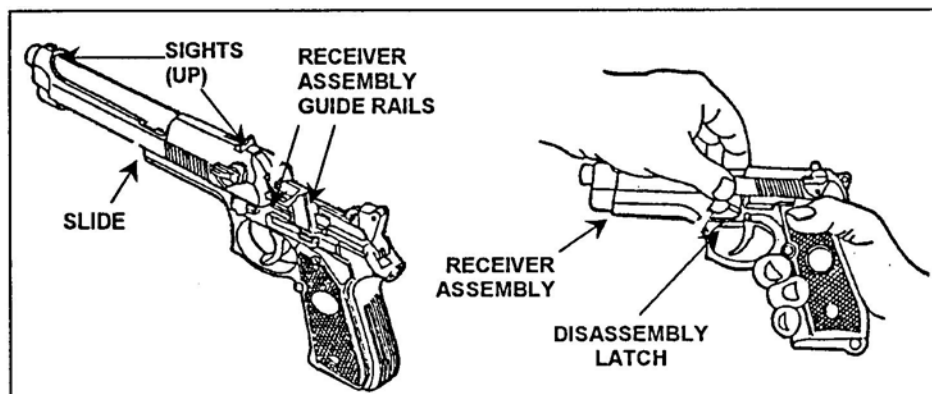

Figure 8. Final assembly.
- f. Push the firing pin block lever down. Grasp the slide and barrel assembly with the sights up, and align the slide on the receiver assembly guide rails (Figure 8).
- g. Push until the rear of the slide is a short distance beyond the rear of the receiver assembly and hold. At the same time, rotate the disassembly latch lever upward. A click indicates a positive lock (Figure 8).